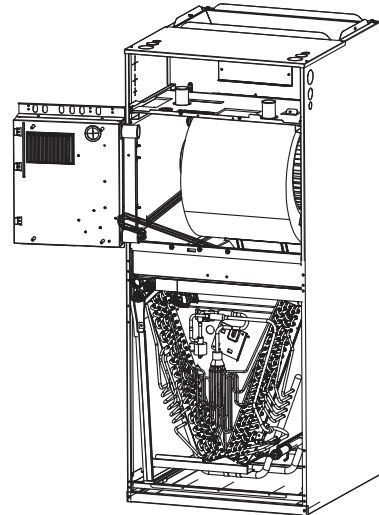

Fig. 9
- (7) Remove the screws of the the electrical box and rotate it. Tighten the wirings with a clumper. Insert the wirings through the rubber ring into the electrical box. (Refer to Fig. 9)